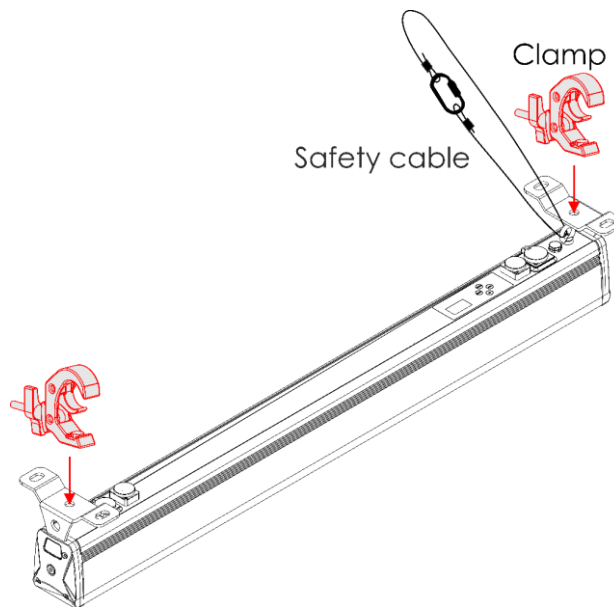

Fig. 05
- 01) Use a clamp to attach the device to the supporting structure, as shown in Fig. 05. Make sure that the device cannot move freely.
- 02) Secure the device with a secondary suspension, for example a safety cable. Make sure that the secondary suspension can hold 10 times the weight of the device. If possible, the secondary suspension should be attached to a supporting structure independent of the primary suspension. Put the safety cable through the **safety eye (10)**, as shown in Fig. 05.